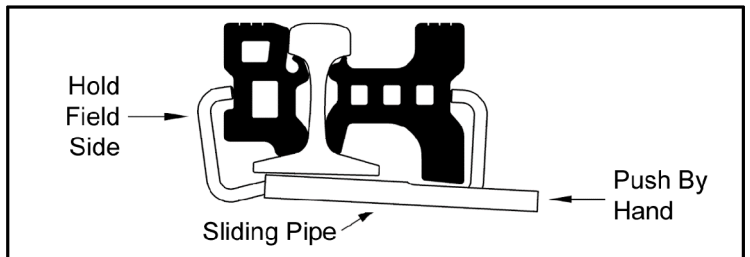

Figure 5
- 5 Hold field side and push sliding pipe under the rail (by hand) to hold clamp into position (Fig. 5)